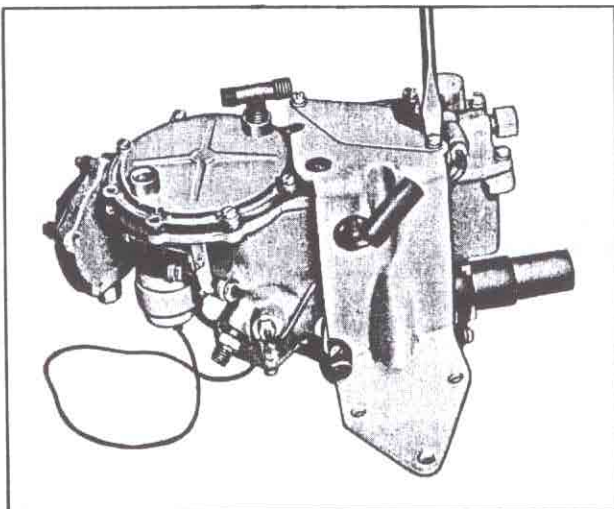

Fig. 129—Removing Fuel Meter Mounting Bracket
1. Remove fuel meter mounting bracket by removing four attaching screws (fig. 129). Be careful not to lose the spacers used at the bowl cover attachment.